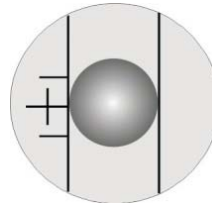

Fig.7
- 2) Rotate the Right Drum Wheel to enable the inner side of right graduated line tangent to the right tip of the diagonal line of the indentation, Fig7.